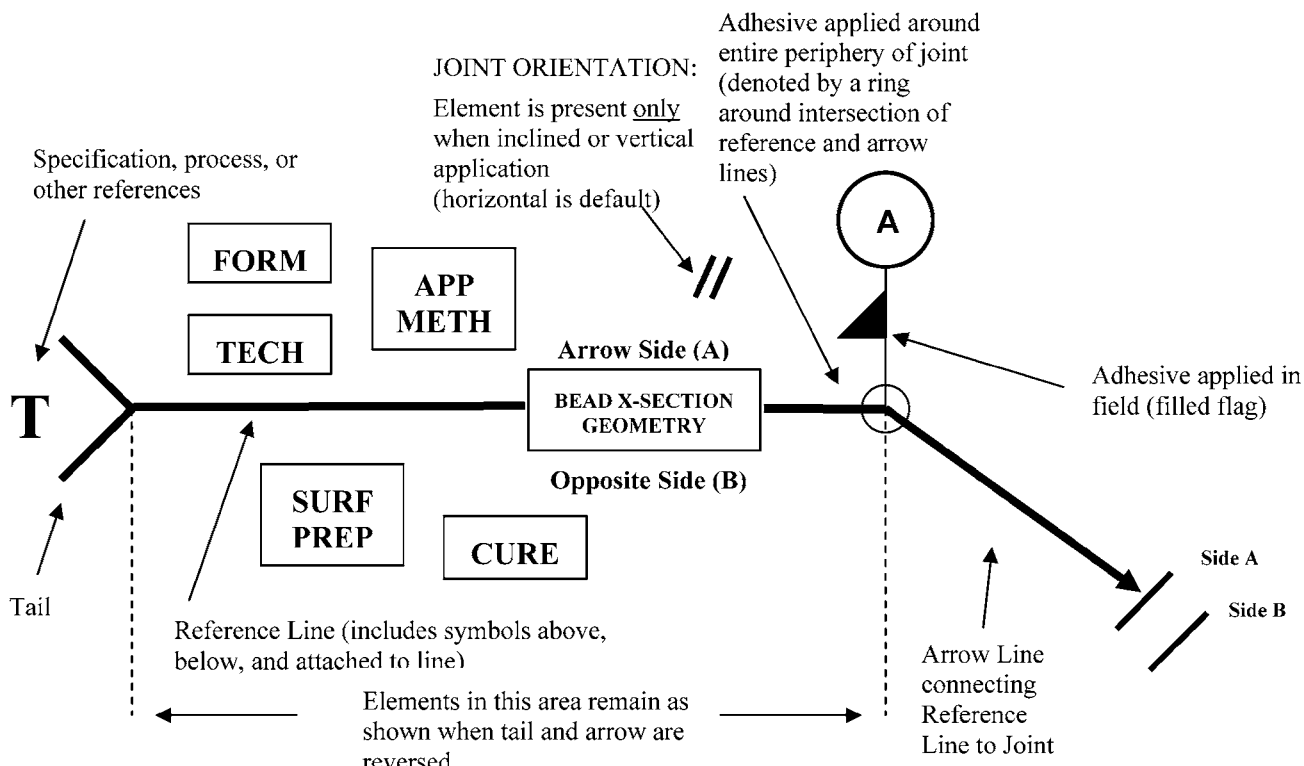

FIG. 1 Standard Locations of Elements of the Adhesive Symbol
3.1 An adhesive symbol provides an efficient means of placing complete information about adhesives on engineering drawings. The joint is the basis of reference for the symbol to which the arrow line is pointed. The reference line of the symbol is used to designate the type of adhesive to be used, including information about its physical form, chemical technology family, requirements for surface preparation, application method (bead versus roll coat), and cure method. The optional tail (shown at left in Fig. 1) provides a place to include additional information about the adhesive that is not referenced in other notations.
3.2 Refer to Fig. 1 for an overview schematic of the adhesive symbol denoted by a mast supporting a circle with the letter “A” inside for adhesive. Detail behind each of the elements noted (for example, FORM, CHEM, APPL METH) can be found in corresponding tables in Section 5.
4.1 The elements represented in Fig. 1 are explained in greater detail in Tables 1-5 and Fig. 2.
5.1 *Symbols With References*—When specifications, processes, or other references are used with the adhesive symbol, the notation is placed in the tail (see “T” symbol in Fig. 1 or Fig. 3). This notation may reflect information about a particular manufacturer’s product or other pertinent data not contained in the symbol elements.